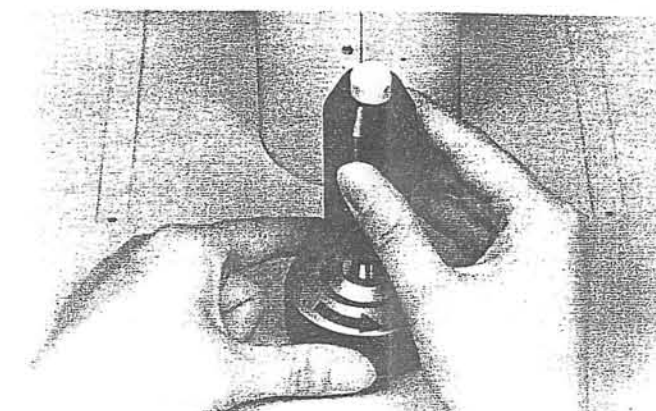

Fig. 38
7. Turn the manipulation rod clamp counterclockwise to loosen it. (Fig. 38) The manipulation rod moves freely. The amount of drag on rod motion